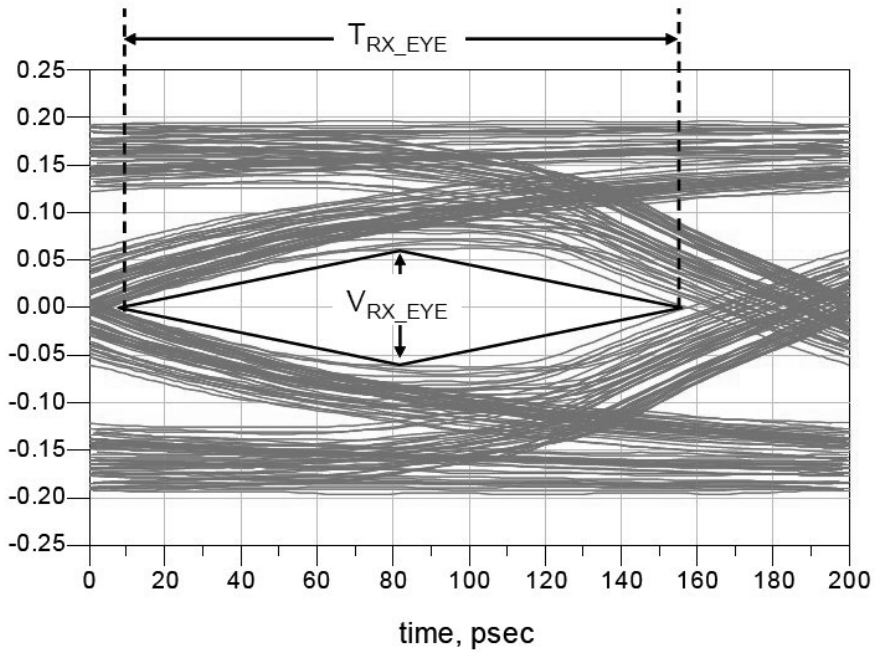
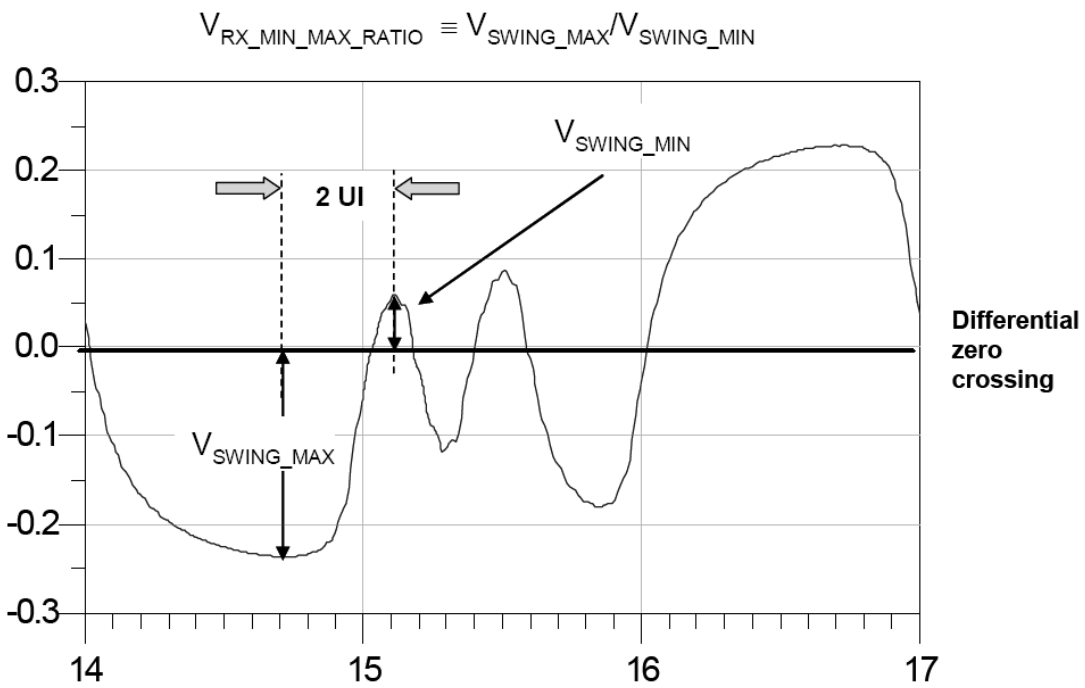

Figure 2: Receiver eye margin, on the differential signal, according to PCIe base standard [2]
Figure 3: Receiver Dynamic Voltage Range
A brief look at the specifications clarifies the test margins. The PCIe chipset includes a transmitter (TX) and a receiver (RX). Each has different physical parameters defined by the standard [1, 2]. Figures 2, 3 and 4 provided here are copies from the standards for the 2nd generation [2].
The Compliance Eye Test requires the input signal to be down to 120 mV in differential amplitude and closed to 0.4 UI in time (see Figure 2). For the Receiver Dynamic Voltage Range the input voltage required should provide a dynamic range of  $V_{\text{swing\_max}} / V_{\text{swing\_min}} = 5$  and a minimum Pulse Width down to .6 UI (see figure 3).
The RX must be able to resolve inputs with substantially differing amplitudes that arise from channel Inter-Symbol Interference (ISI). This is expressed with a VRX-MAX-MIN-RATIO with a value of 5 (see Figure 3). This corresponds to a transmission line length of 25 inches over conventional FR4 material.